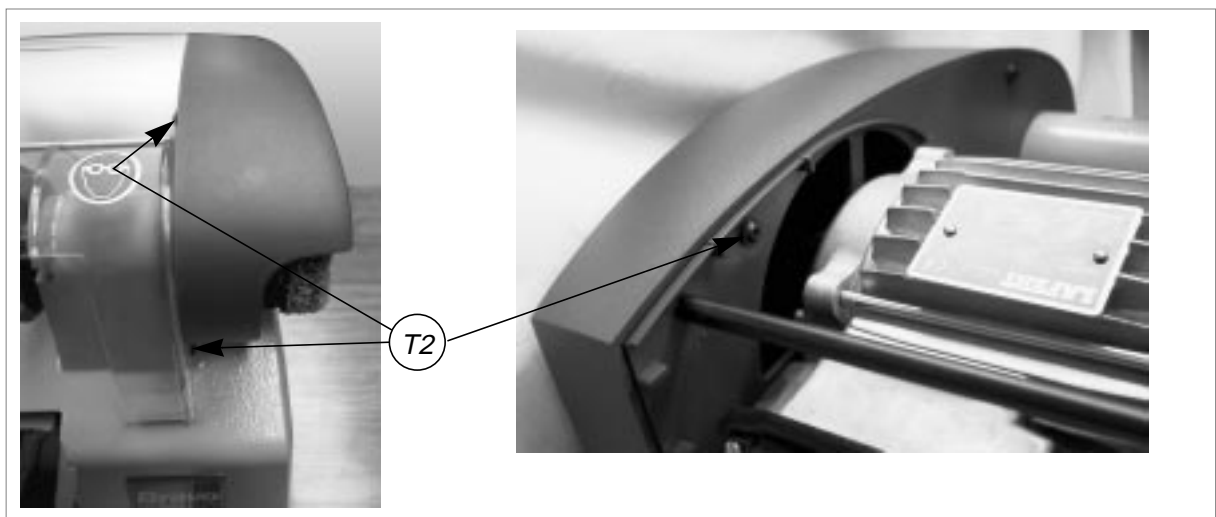

Fig. 30
- 4) Loosen the 3 screws (T2) (fig.30) on the belt cover and remove (pull out towards the front of the machine).
- 6) Loosen the nuts (U1) on the stay bolts (U2) and remove together with their washers (fig.30).
4) Loosen the 3 screws (T2) (fig. 30, page 24) on the belt cover and remove (pull towards the front of the machine).
- 6) Replace the belt cover and fix with the 3 screws (T2) (fig. 30, page 24).
- 7) Loosen the 3 screws (T2) (fig. 30, page 24) on the belt cover and remove (pull towards the front of the machine).
- 16) Replace the belt cover and fix with the 3 screws (T2) (fig. 30, page 24).